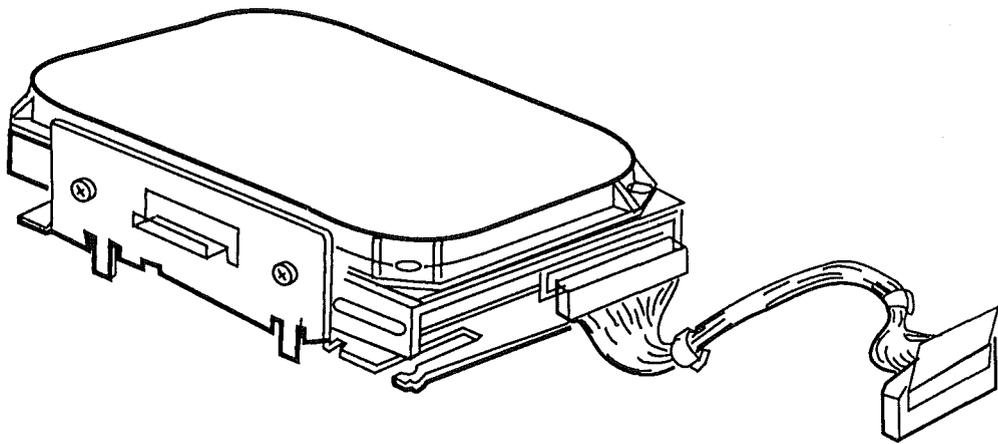

FIGURE 9
□ SCSI HARD DISK DRIVE (Figure 9)